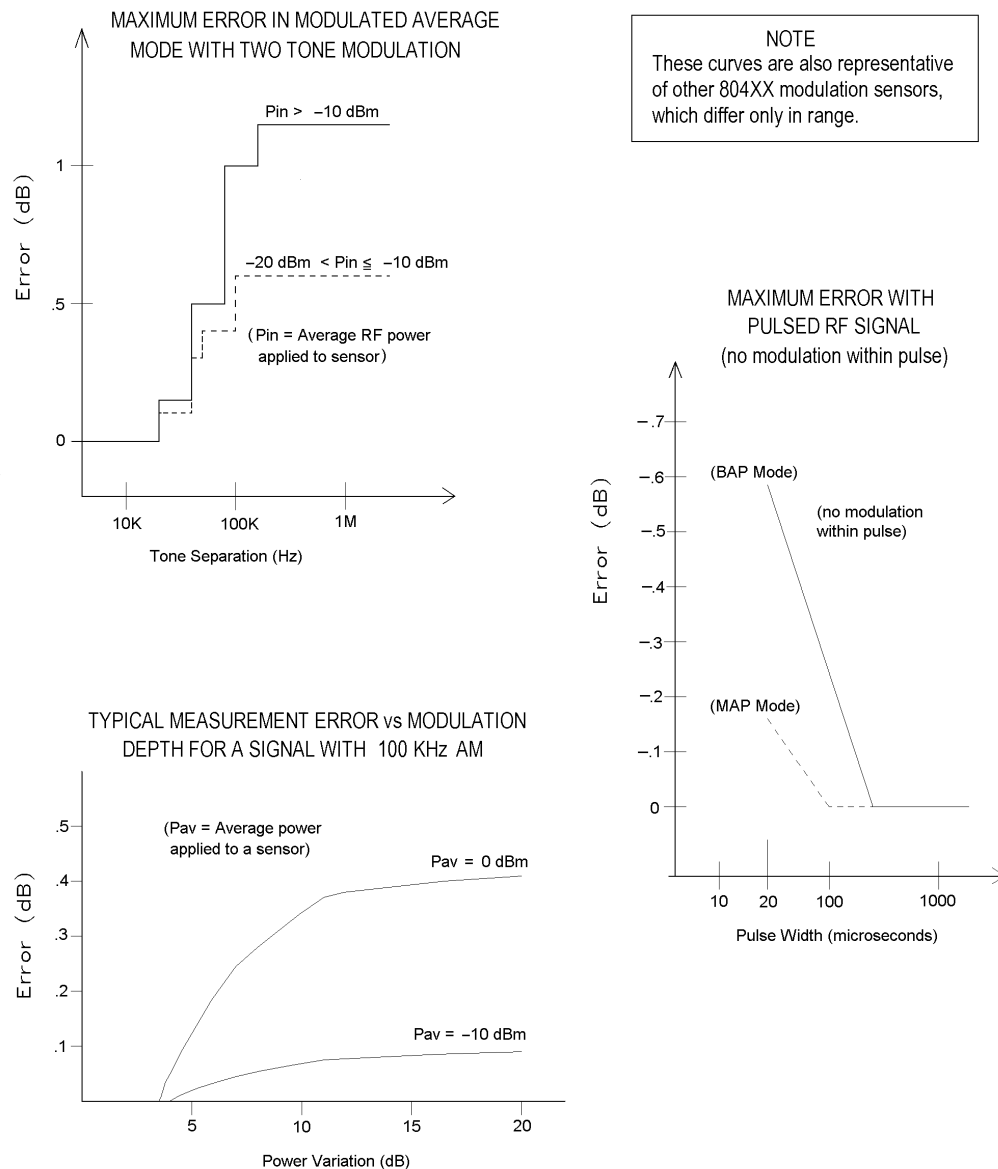

Figure B-1. 80401 modulation-related uncertainty
Table B-1 lists the Giga-tronics power sensors used with the power meters. Refer to applicable notes on page B-3. See Figure B-1 for modulation-induced measurement uncertainty.
- 2 See Figure B-1 for modulation-related uncertainty.